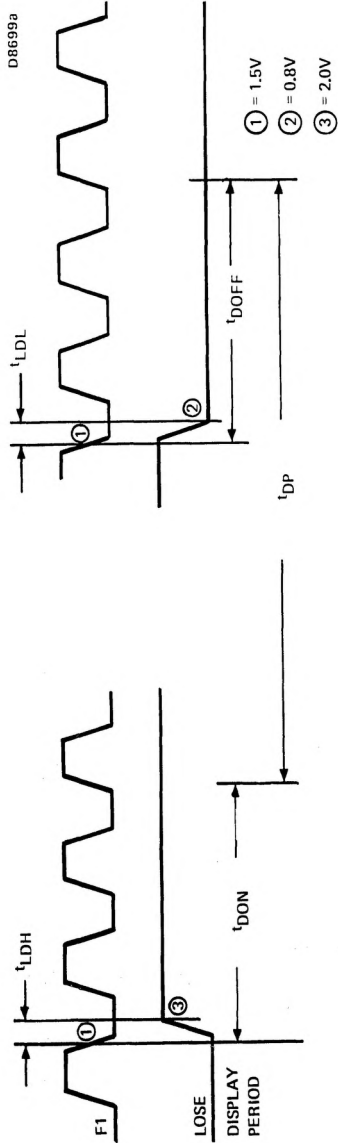

Fig.5 Display period timing (for typical 40 character display)
Display period timing (Fig.5)
3. Valid during display period only (see Fig.5) otherwise no character or background information is displayed as blanking is determined by the Picture On. (No blanking if PO = '1').